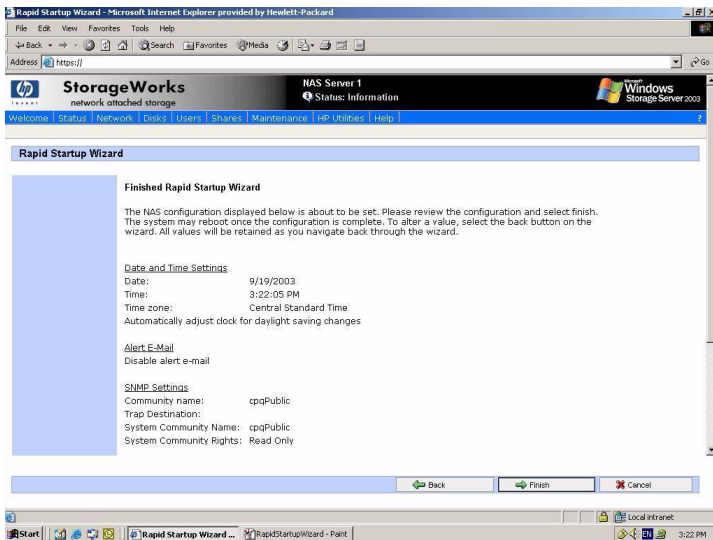

Figure 8: Rapid Startup configuration review screen
8. Verify that your information is correct when the configuration review screen is displayed as shown in Figure 8.